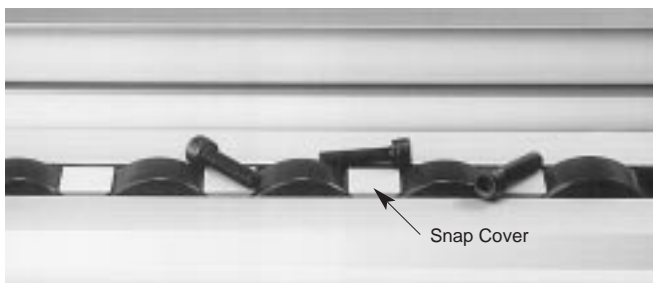

Figure 5.9 Snap Covers on DOUBLE PLUS® Chain
- (1) Small objects, such as screws, may fall between exposed chain components, which can jam the system. Snap covers have been developed to prevent small objects from jamming the line (Figure 5.9).
- (2) Besides chain, sprockets, and guide rails, many conveyor components, such as pallet guides (to control side-to-side motion) and brackets, have been designed for DOUBLE PLUS® Chain and guide rails. They are available as kits. Manufacturers are also expected to develop software packages to aid the conveyor designer in selecting the proper chains and components.
- (3) There are DOUBLE PLUS® Chains with steel rollers for heavy loads.